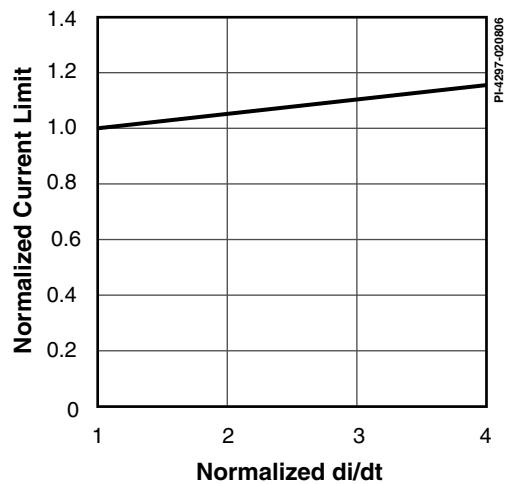

Figure 25. Current Limit vs.  $di/dt$ .
- E. For current limit at other di/dt values, refer to Figure 25.